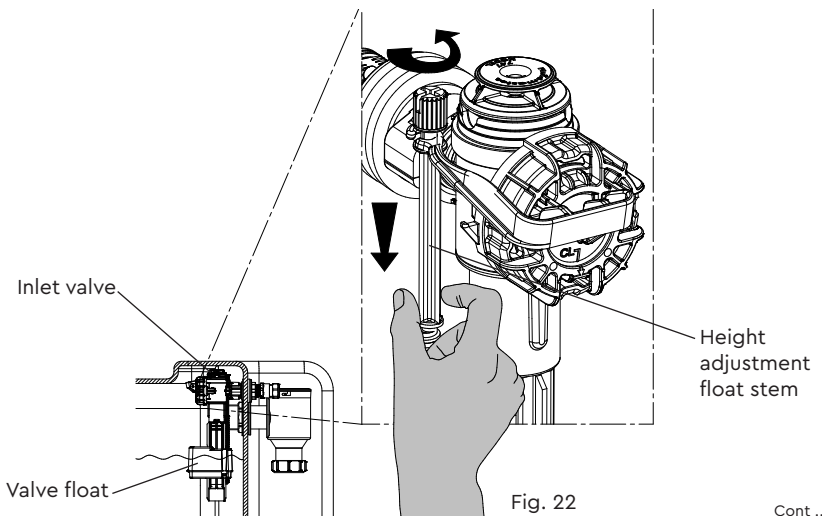

Fig. 22
- 7.16 **Float fill valve:** The float level is factory set, but if in time the water level in the tank is found to be too high, the level can be adjusted by the valve screw stem (see Fig. 22). Access the float fill valve by removing the lid of the tank (see Section 3 – Key Features). The float height can be lowered by twisting the valve stem anti-clockwise.